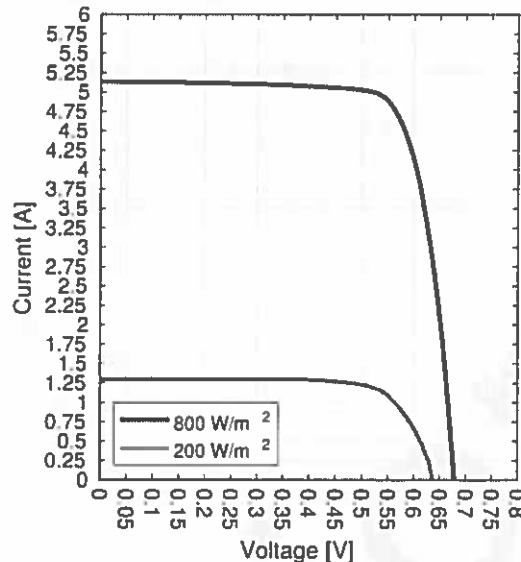

Figure Q2.1- V-I curves of a solar cell.
- a) The graph in Figure Q2.1 shows the output current of a PV cell against its output voltage for two different irradiation levels.